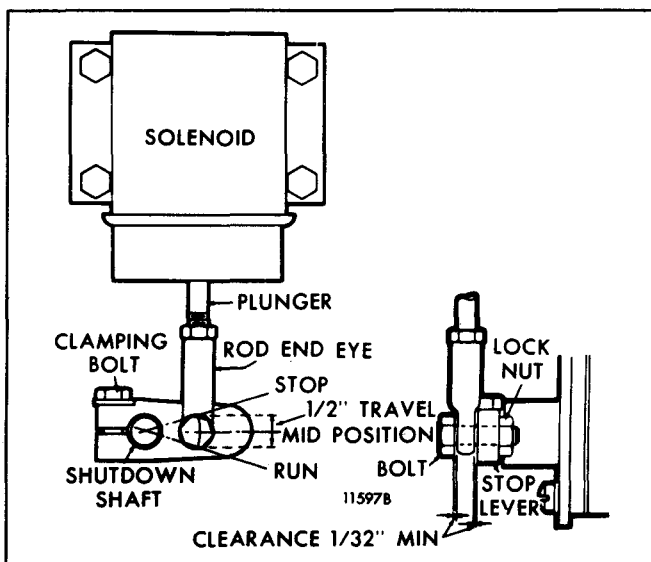

Fig. 8 – Typical Variable Speed Governor Lever Position
1. Remove the bolt connecting the rod end eye (variable speed governor) or the right angle clip (limiting speed governor) to the stop lever (Figs. 8 and 9). Align and clamp the lever to the shutdown shaft in such a way that, at its mid-travel position, it is perpendicular to the solenoid plunger. This assures that the linkage will travel as straight as possible. The solenoid plunger has available 1/2" travel which is more than adequate to move the injector control racks from the *full-fuel* to the complete *no-fuel* position and shutdown will occur prior to attaining complete travel.